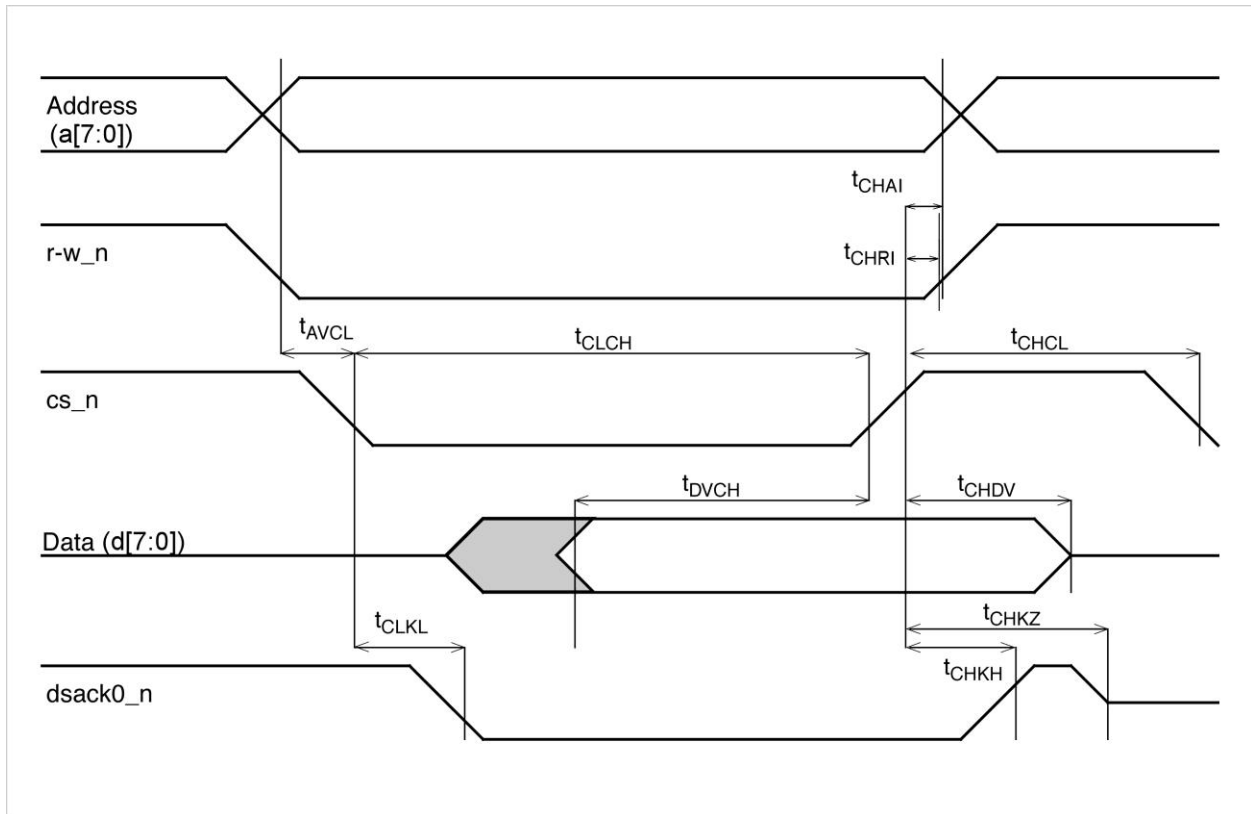

Figure 13. Mode 3: Asynchronous Operation, Write Cycle
- Mode 3: Asynchronous Operation, Write Cycle (Table 12/Figure 13)